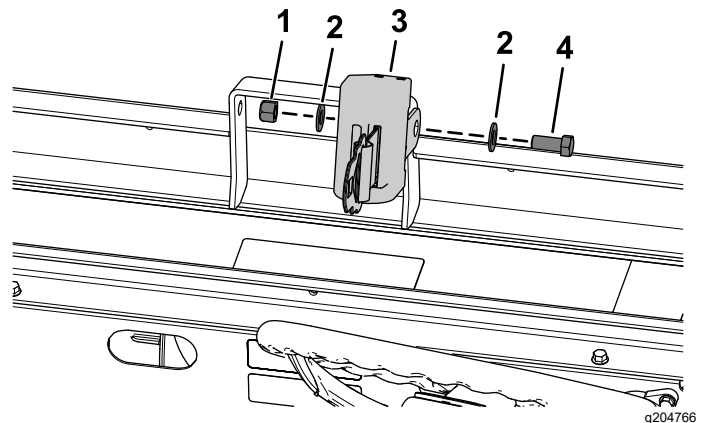

Figure 28
4. Install a seat belt using a hex-head bolt (7/16 x 1 inch), 2 flat washers (7/16 inch), and a locknut (7/16 inch) as shown in Figure 28.